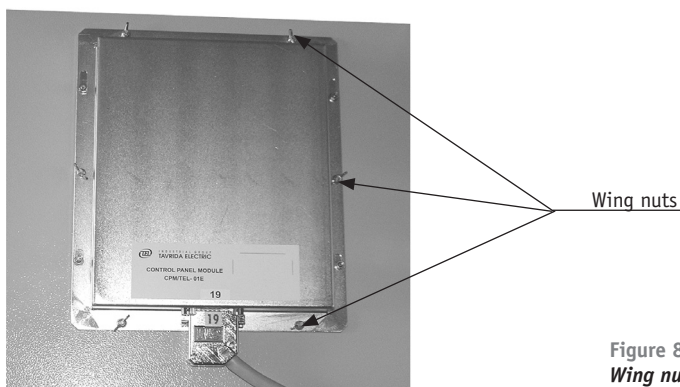

Figure 85
1. Disconnect connector "19" from CPM (Fig. 85).
2. Unscrew six wing nuts fixing CPM and remove washers (Fig. 85).